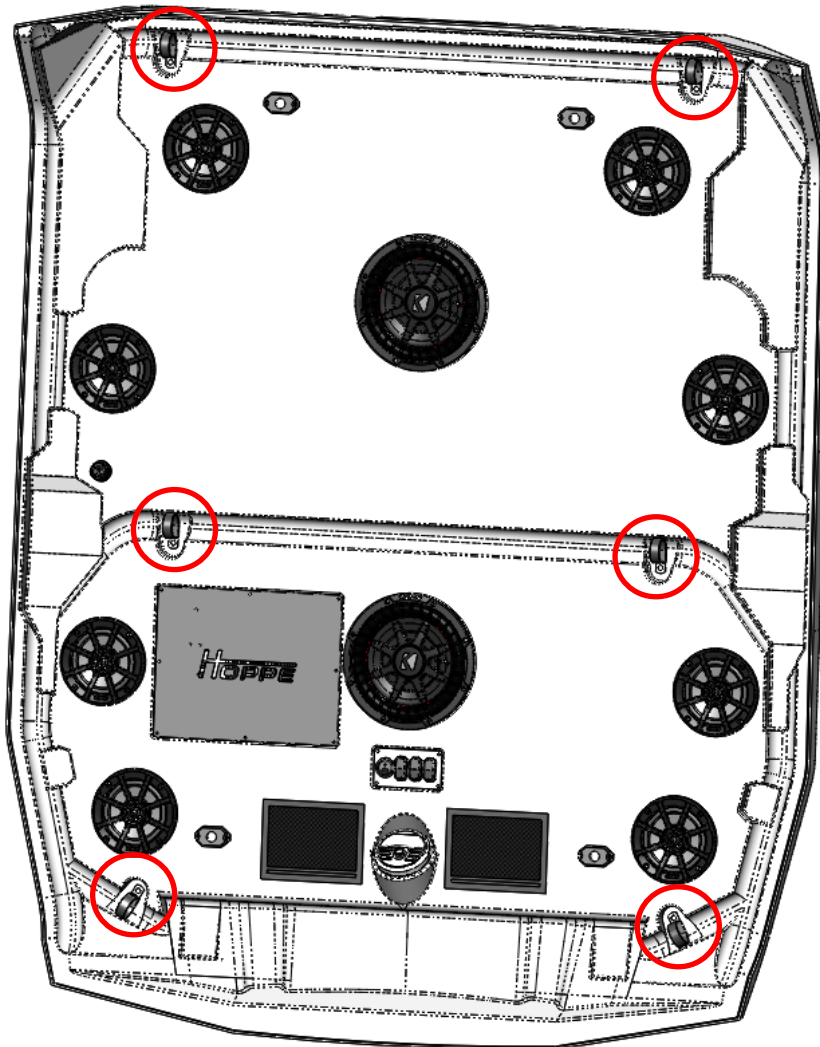

Figure 3: Remove the 6 clamps from the top.
1. Remove the cage clamps and 3/8"-16 bolts and washers that come pre-installed on the top. Save the hardware for installation. See Figure 3 and Figure 4.